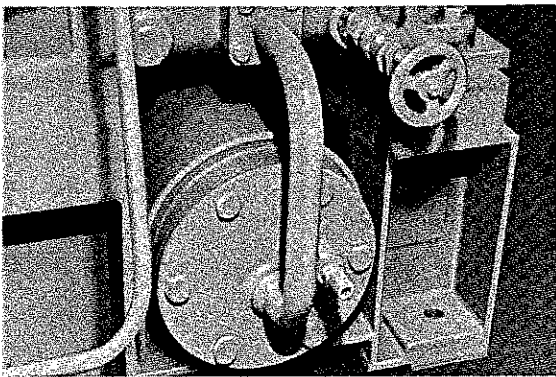
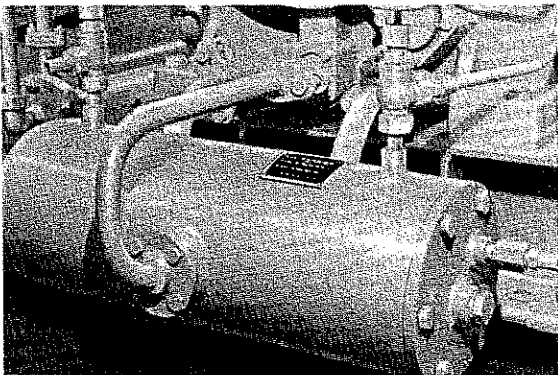

Fig. 34 Oil tank, lower mounting type for marine use
Fig. 35 Oil tank, side mounting type for marine use
Oil tanks for compressors 4A to SB have two shapes as shown in Figures 34 and 35. Fig. 34 shows a tank mounted under the compressor and Fig. 35 shows a side mounted tank. The former type has no pressure equalizing piping, and is connected with a 1" flange at the center lower part of the crankcase. The other type has two oil flow pipes and one pressure equalizing pipe for purging gas, and is connected to the handhole cover. There is a stop valve in the middle of this pipe. It should not be closed during operation.
- b. In centering, stretch a steel wire on the flywheel side as illustrated in Figure 34 to check deviation of the grooves. Deviation causes premature wear and tear of the belt and shortens the life of the compressor as unnecessary force is applied to the bearings.